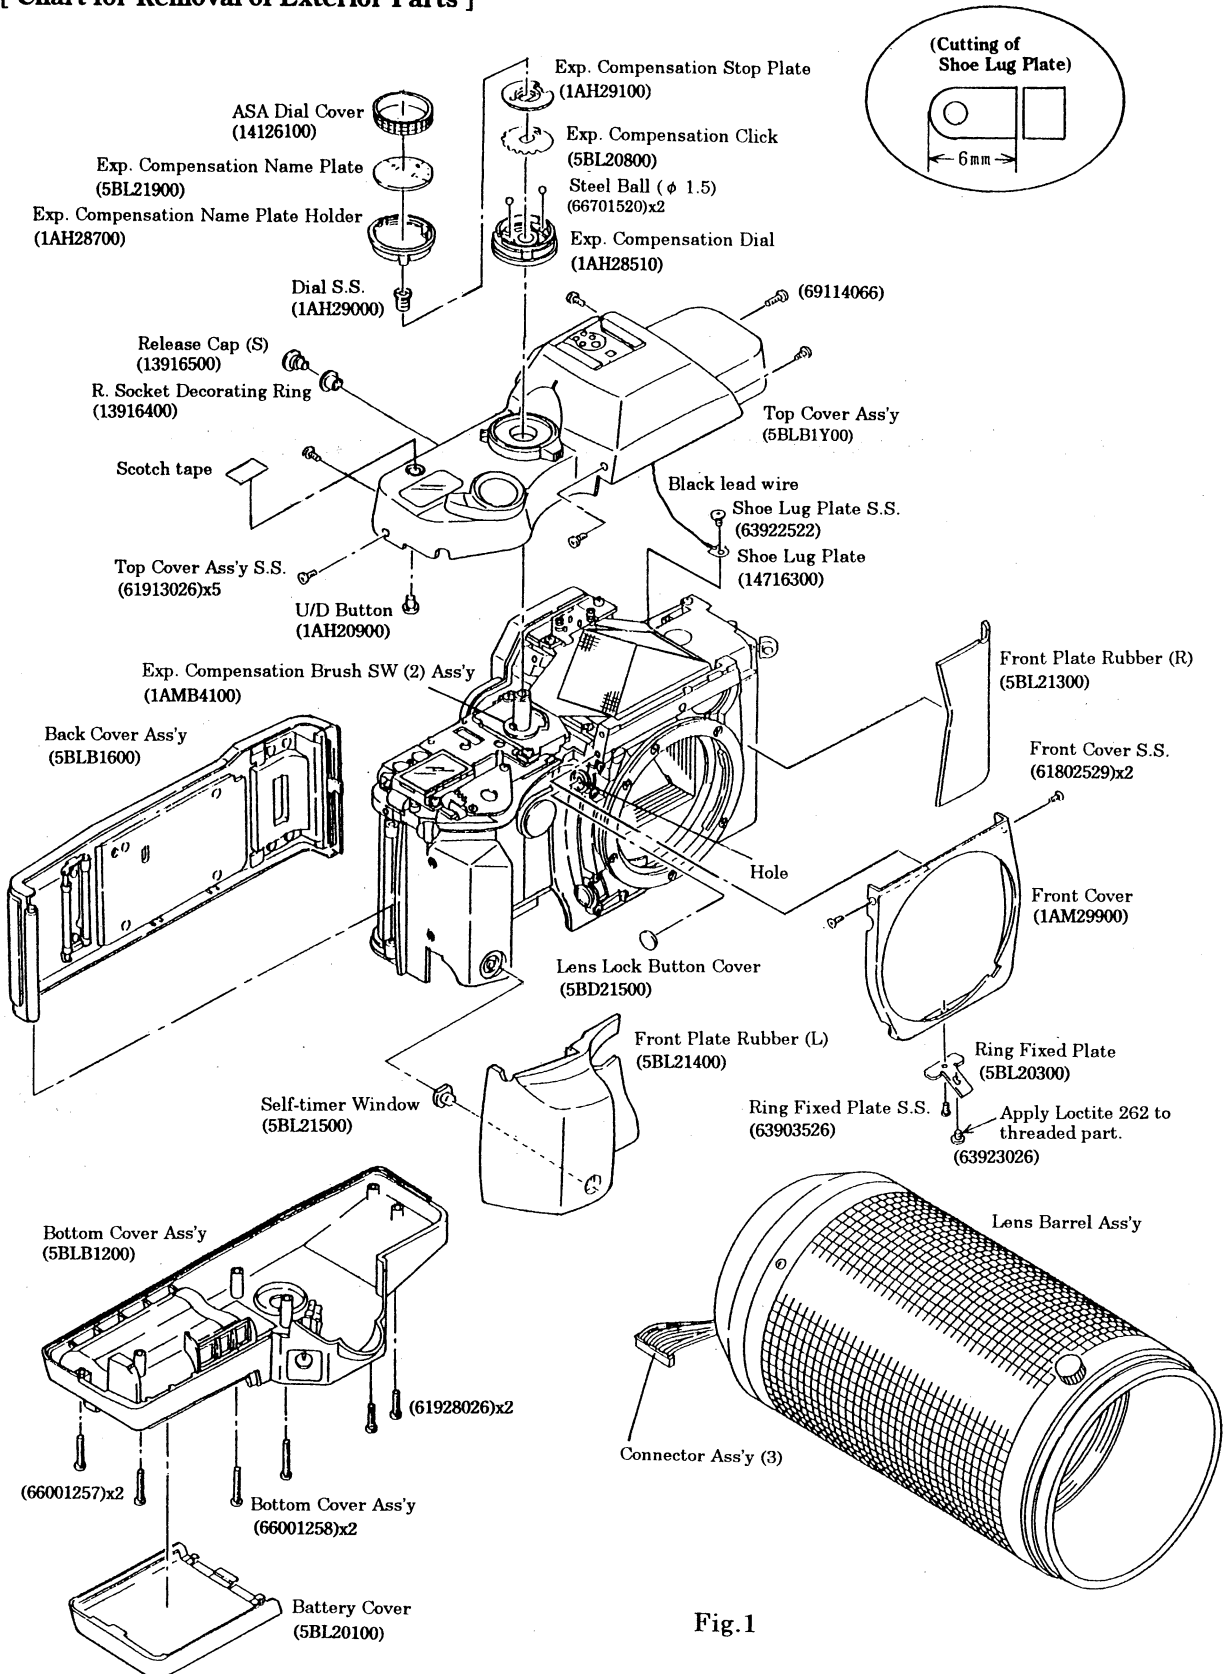

Fig.1
- 4) Remove the Release Cap (S) (13916500) and R. Socket Decorating Ring (13916400).
- 5) Stick the Scotch Tape to the U/D Button (1AH20900). (See Fig. 1)
- When removing the Top Cover Ass'y, the Exp. Compensation Brush SW (2) Ass'y (1AMB4100) will be ready for coming off. After the removal of the Top Cover Ass'y, take off the Exp. Compensation Brush SW (2) Ass'y. The contact of the Exp. Compensation Brush bends easily, so take ample care in handling. (See Fig. 1)
- Cut the Shoe Lug Plate (14716300) to the length of about 6 mm and install it. (See Fig. 1)